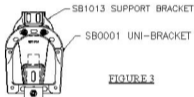

FIGURE 3
- 7) Tilt the speaker unit forward and drop the bottom edge of the uni-bracket into the slide at the bottom of the support bracket. Then push the speaker unit in at the top so that the uni-bracket engages the two 5/16" bolts. Install the flat-washers, lock washers and nuts provided. Do NOT tighten. (See FIGURE 3 for installation. Note that the same two slots in the uni-bracket are used for both driver and passenger sides.)